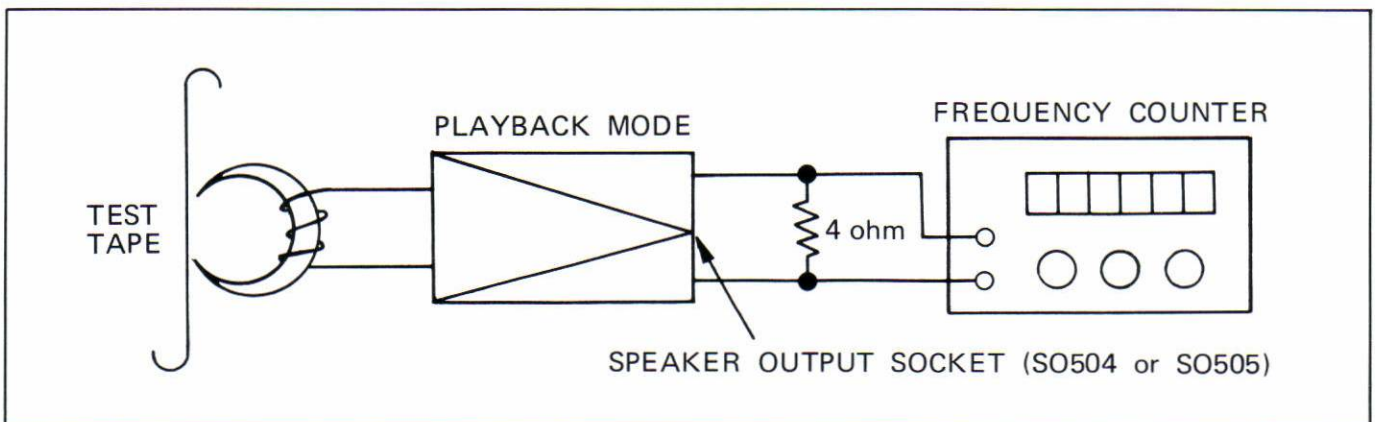

Figure 5
■ TAPE SPEED CHECK (Refer to Figure 5)